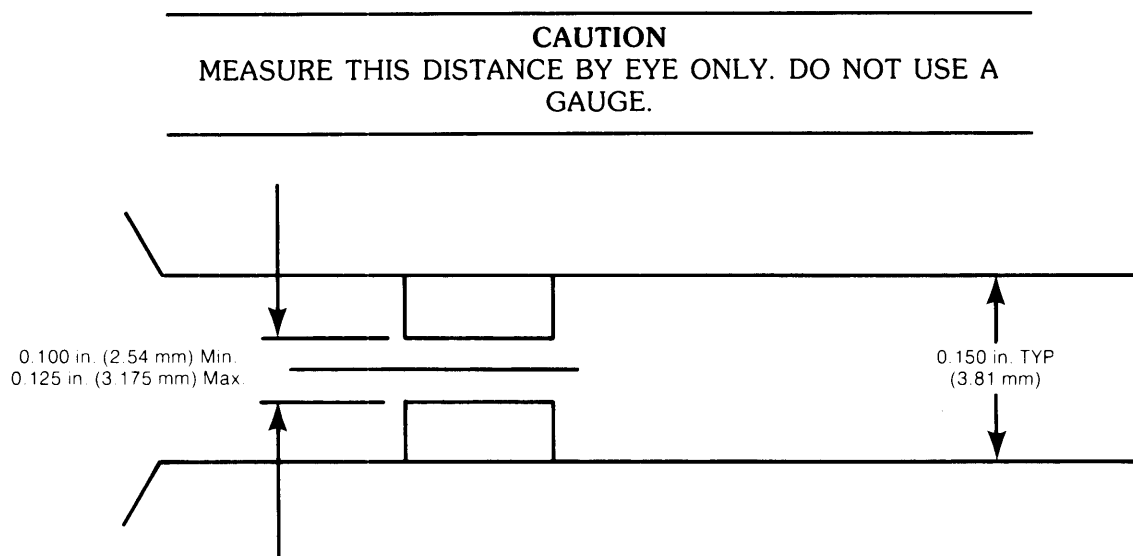

Figure 2-23. Head Unload Clearance
Adjust setscrew on door for 0.100 inch to 0.125 inch clearance (Figure 2-23) between flyer pads with head-load solenoid de-energized and door closed.
6. Position pulley allowing clearance of 0.039 inch, ± 0.010 inch between shoulder of motor mounting screws and pulley (Figure 2-23).